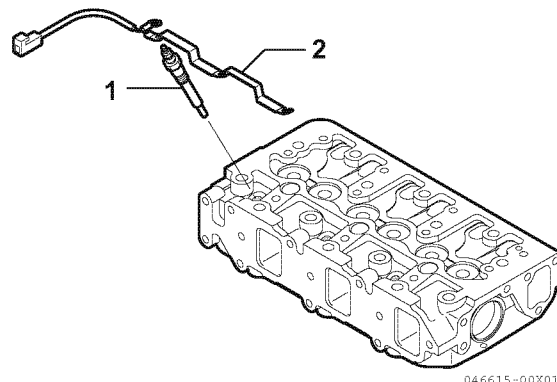

Figure 6-37
6. Install each glow plug (**Figure 6-37, (1)**), and tighten it with the specified torque. Install each electrical harness (**Figure 6-37, (1)**), and tighten it with the specified torque.